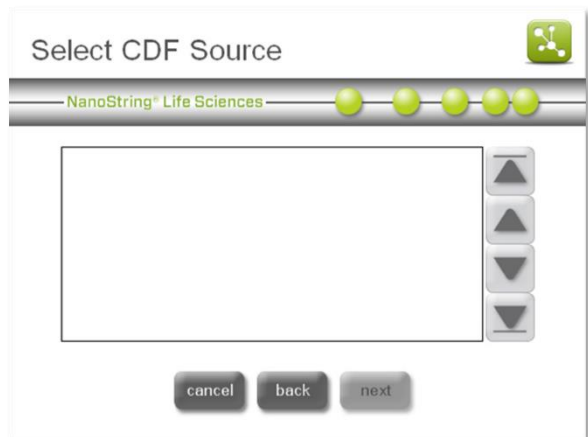

Figure 64: The 'Select CDF Source' screen.
3. Select **upload CDF**. The 'Select CDF Source' screen will appear (**Figure 64**).